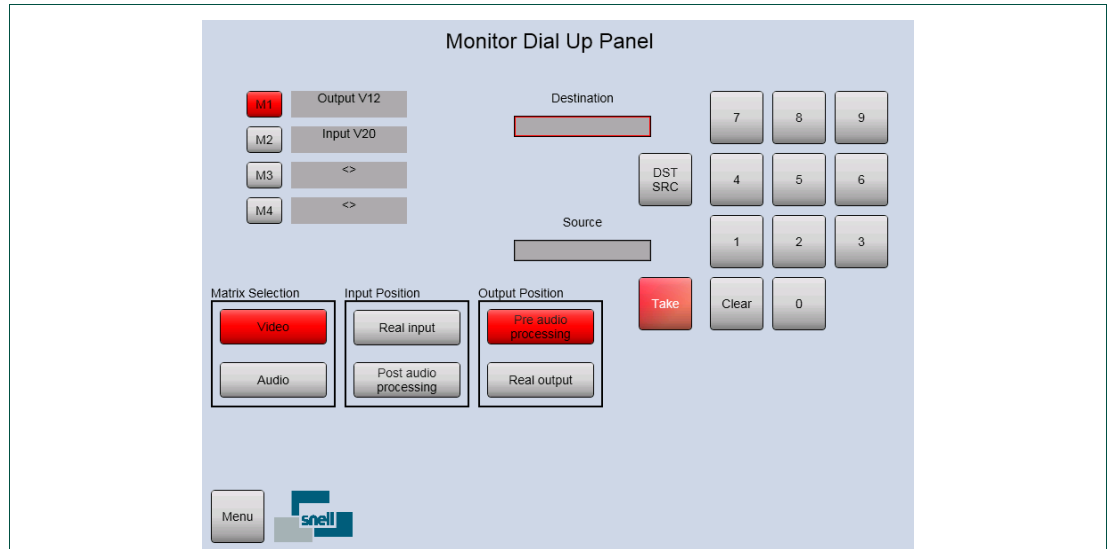

Fig 42. Monitor Dial Up Panel
2. If the selected monitor output is already set to output a signal the current settings for that output are displayed as red buttons on the door PC (see Fig 42.).